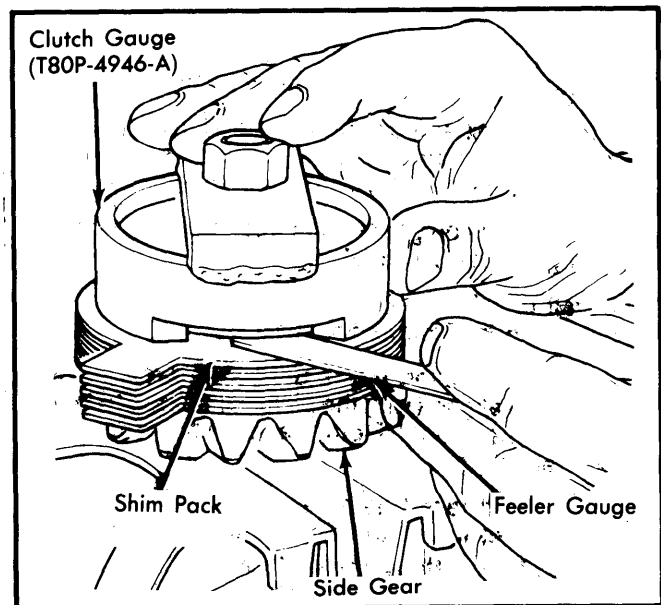

Fig. 10 Clutch Pack Shim Measurement
3) To measure required shim thickness using gauge, lubricate all parts before installing clutch pack and side gear, without shims, onto gauge tool. Measure clearance with a feeler gauge. See Fig. 10. Repeat procedure for other side gear assembly. Clearance measured on each clutch pack will be shim size required for each assembly.